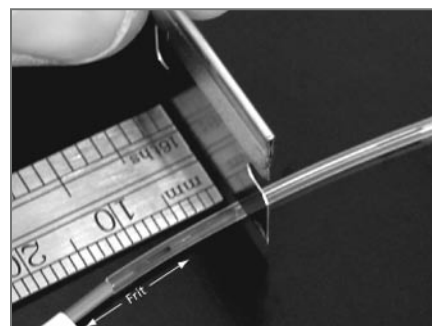
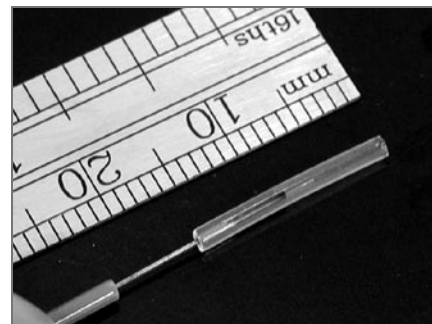

FIGURE 5A Cutting the FEP sleeve
FIGURE 5B Properly cut sleeve
- Within the FEP sleeve there is a gap between the frit end and the distal end of the column. Measure 5 mm into this gap, towards the distal end of the column, from the end of the frit. Cut the FEP sleeve using a single edge razor blade or similar sharp cutting tool as shown in Figure 5A. Use caution because bending the FEP sleeve can fracture the frit and render the column useless. A properly cut FEP sleeve is shown in Figure 5B.